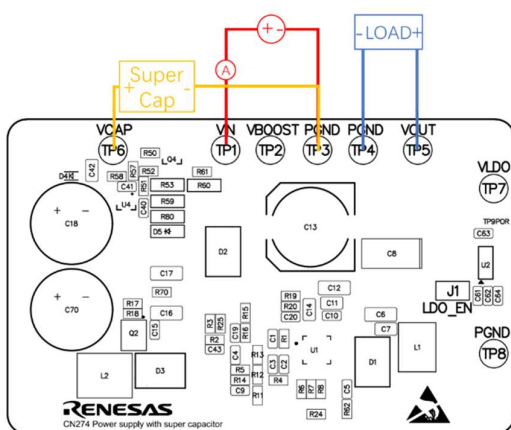

Figure 2 Charger and Buck mode
- 1, Connect the power supply to the input terminals VIN (TP1) and GND (TP3). Connect the load terminals to the output VOUT (TP5) and GND (TP4). Make sure the setup is correct prior to applying any power or load to the board. Refer to Figure2.
- 3, Verify the output voltage is 3.3V and use oscilloscope to monitor the supercapacitor voltage. Refer to Figure 2.